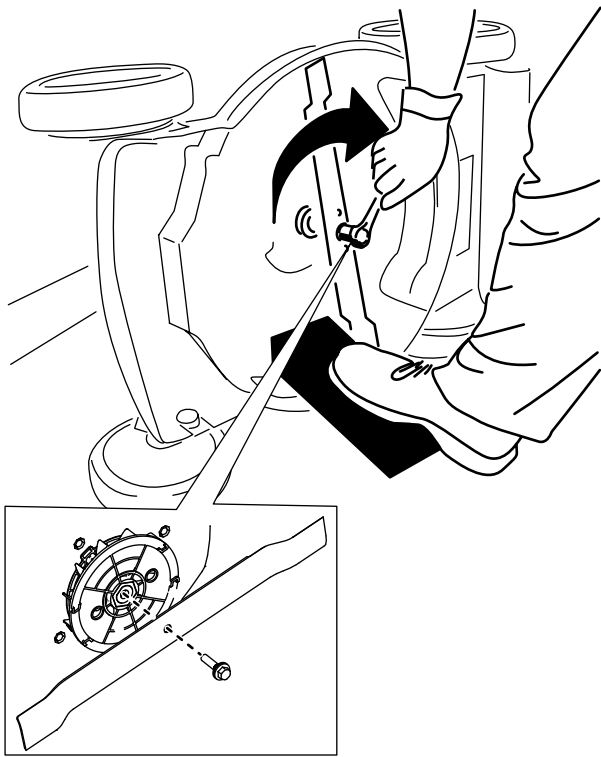

Figure 24
4. Install the new blade and the blade bolt (Figure 24).